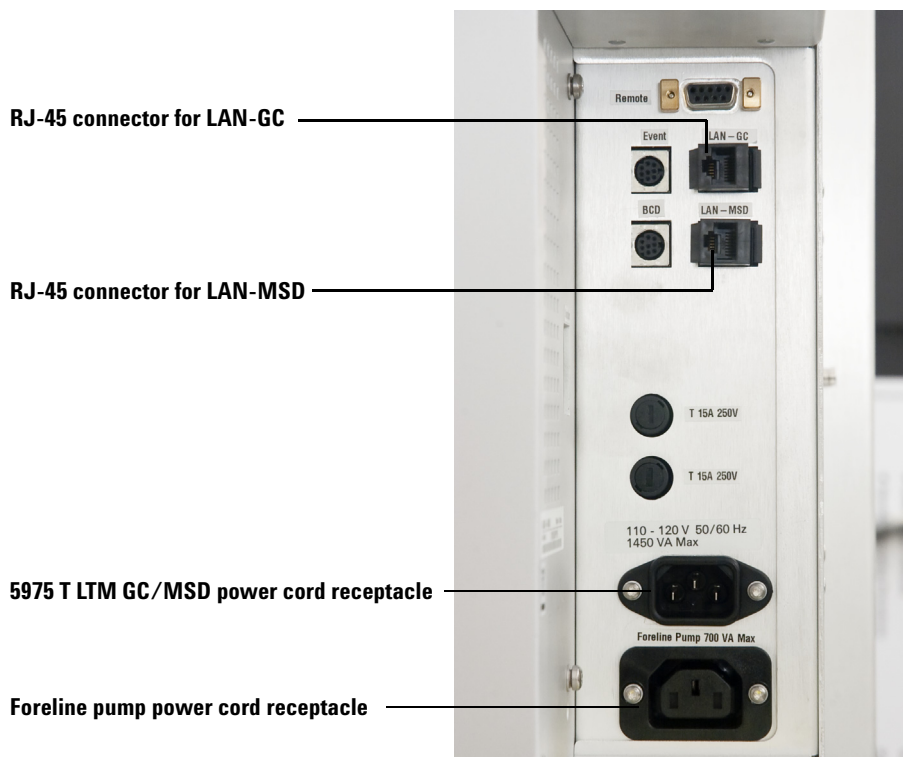

Figure 4 Connections on the side of the instrument
- 7 Connect the foreline pump power cord to the receptacle on the side of the MSD. See Figure 4.
- 5 Connect a shielded LAN cable between the RJ-45 LAN connector on the side of the instrument labeled LAN-MSD and connector #1 on the network switch. See Figure 4.
- 6 Connect a shielded LAN cable between the RJ-45 LAN connector on the side of the instrument labeled LAN-GC to connector #2 on the network switch. See Figure 4.